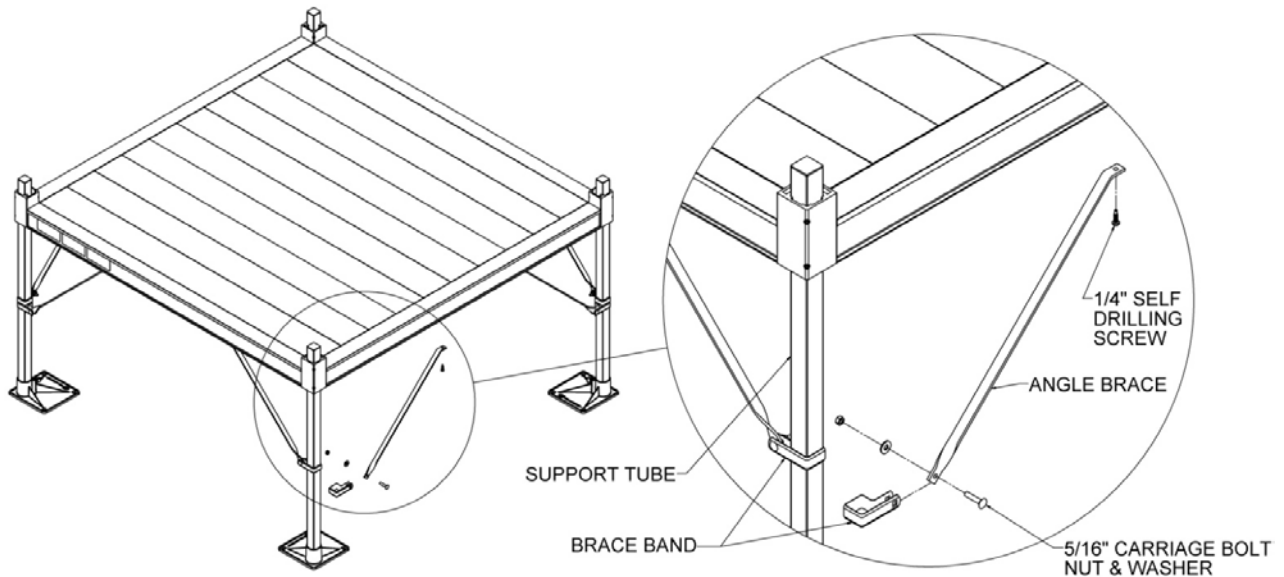

FIG. 2.9
- 2.6.2. Use two brace bands to secure the ends of the two angle braces nearest the twist to the support tube using a 5/16" bolt, flat washer, and nut (FIG. 2.9).
- 2.6.3. Opposite ends of the braces are attached to the bottom of the platform side rail at 90° to each other using a 1/4"x 1" long self-drilling screw (FIG. 2.9).